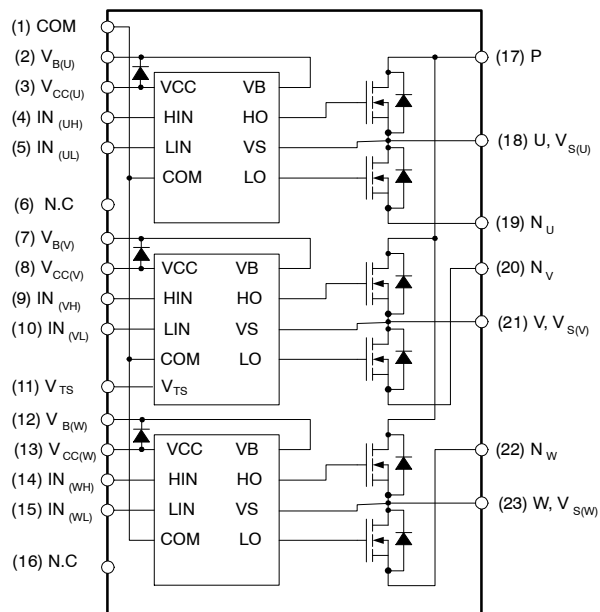

Figure 1. Pin Configuration and Internal Block Diagram (Bottom View)
14. About pin position, refer to Figure 1.